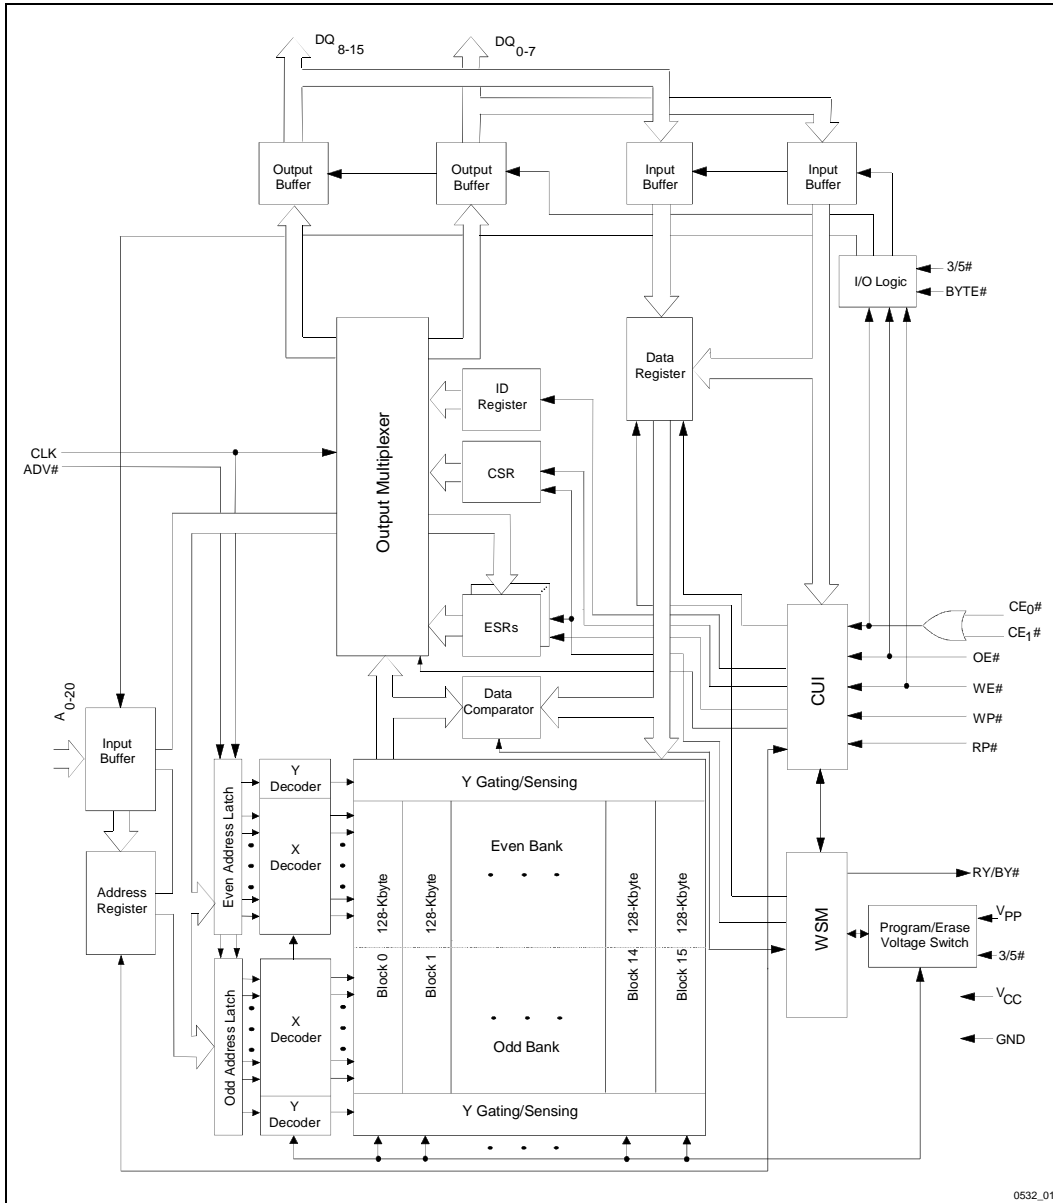

Figure 1. 28F016XS Block Diagram
| -003 | <p>Added 3/5# pin to Pinout Configuration (Figure 2), Product Overview (Section 1.1) and Lead Descriptions (Section 2.1) Modified Block Diagram (Figure 1): Removed Address Counter; Added 3/5# pin Added 3/5# pin to Test Conditions of I_{CCS} Specifications Added 3/5# pin (Y) to Timing Nomenclature (Section 5.6) Removed Note 7 of Section 5.7 Modified Device Configuration Code: Incorporated RY/BY# Configuration (Level Mode support ONLY) Modified Power-Up and Reset Timings (Section 5.10) to include 3/5# pin: Removed t_{5VPH} and t_{3VPH} specifications; Added t_{PLYL}, t_{PLYH}, t_{YLPH}, and t_{YHPH} specifications Added SSOP pinout (Figure 2) and Mechanical Specifications Corrected TSOP Mechanical Specification A1 from 0.50 mm to 0.050 mm (Section 6.0) Minor cosmetic changes throughout document.</p> |
The BYTE# pin allows either x8 or x16 read/programs to the 28F016XS. BYTE# at logic low selects 8-bit mode with address A₀ selecting between low byte and high byte. On the other hand, BYTE# at logic high enables 16-bit operation with address A₁ becoming the lowest order address and address A₀ is not used (don't care). A device block diagram is shown in Figure 1.